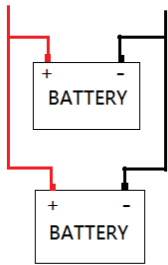

Figure 7.2.2 12V in parallel
**Step 2:** Prepare batteries and connect 2x12V batteries in parallel. Figure 7.2.2.